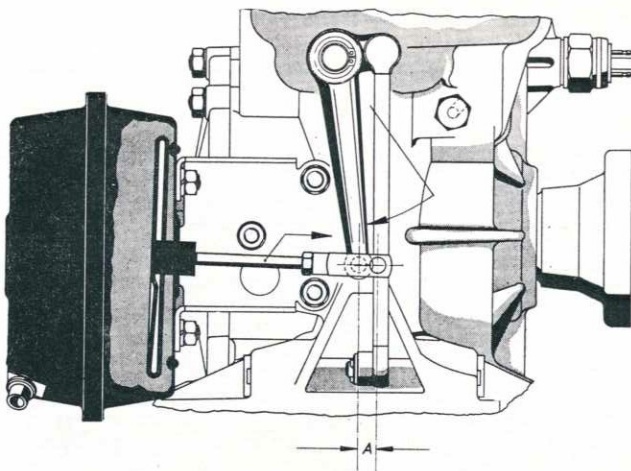

Fig. 4
3. Pull the actuating rod in the direction away from the vacuum actuator as far as possible, and push the intermediate lever towards the vacuum actuator. In this position, the actuator rod clevis must be so adjusted that the clevis pin bore extends $\frac{1}{2}$ " (10–12 mm) beyond the pin bore in the intermediate lever. (See distance A in Fig. 4.)